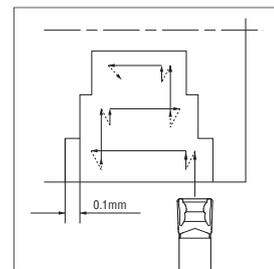

Fig.3
- 1) When widening the groove width (Refer to Fig.3), apply the "Step Turning."